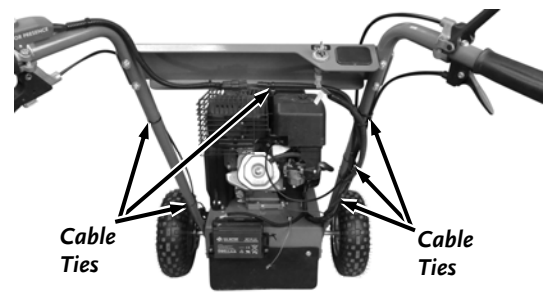

Figure 20
30. Use the Cable Ties to secure the Cables and Wires to the Control panel and handlebars at the locations indicated (**Figure 20**). Cut the excess from the Cable Ties using Wire Cutters.